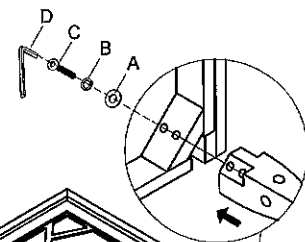

Figure 1
2. Attach legs to table frame using Bolt (C), Lock Washer (B) and Flat Washer (A) and Allen Wrench (D). As Shown in Figure 1. (Do not tighten bolts)